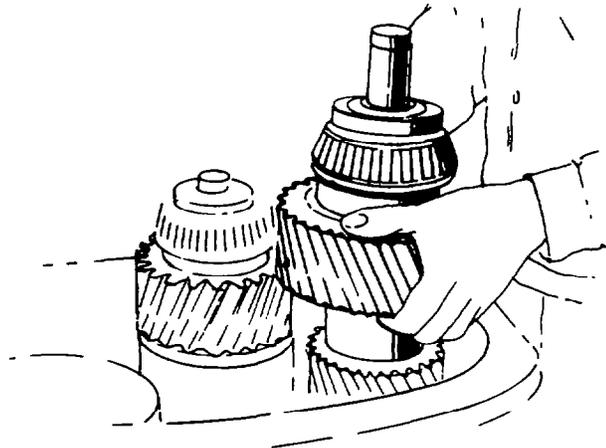

Fig. 250 — Installing Mainshaft Assembly
- l. Turn the transfer case to the vertical position with the rear of the case facing up and install the mainshaft assembly (see fig. 250).